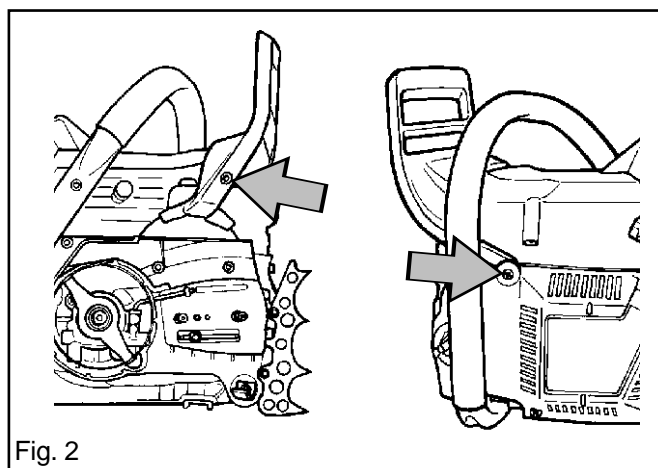

Fig. 2
3. Unscrew hand guard, two bolts. Note sleeving on the starter side. See fig. 2.
7. Attach the hand guard with the sleeving on the starter side. See fig. 2.